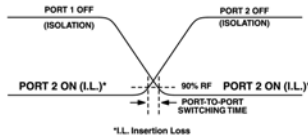

Figure 3b - Switching Speed Characteristics
**Connotation** (port-to-port switching time) (Figure 3b), sometimes referred to as "Commutation Time," is the period from when the RF power level at the off-going port falls to 10 percent of its original level to the